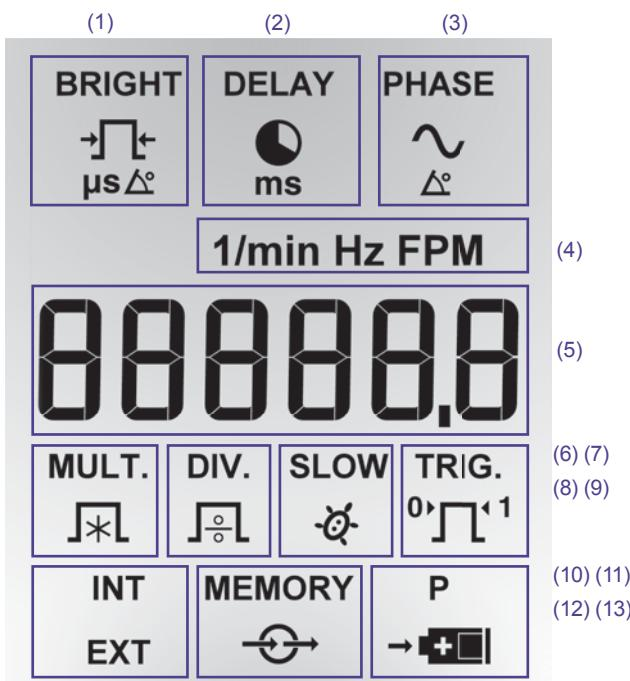

Fig. 2 - Display
**NOTE:** Not all of the setting shown in Fig 2 are available in Standard Mode.